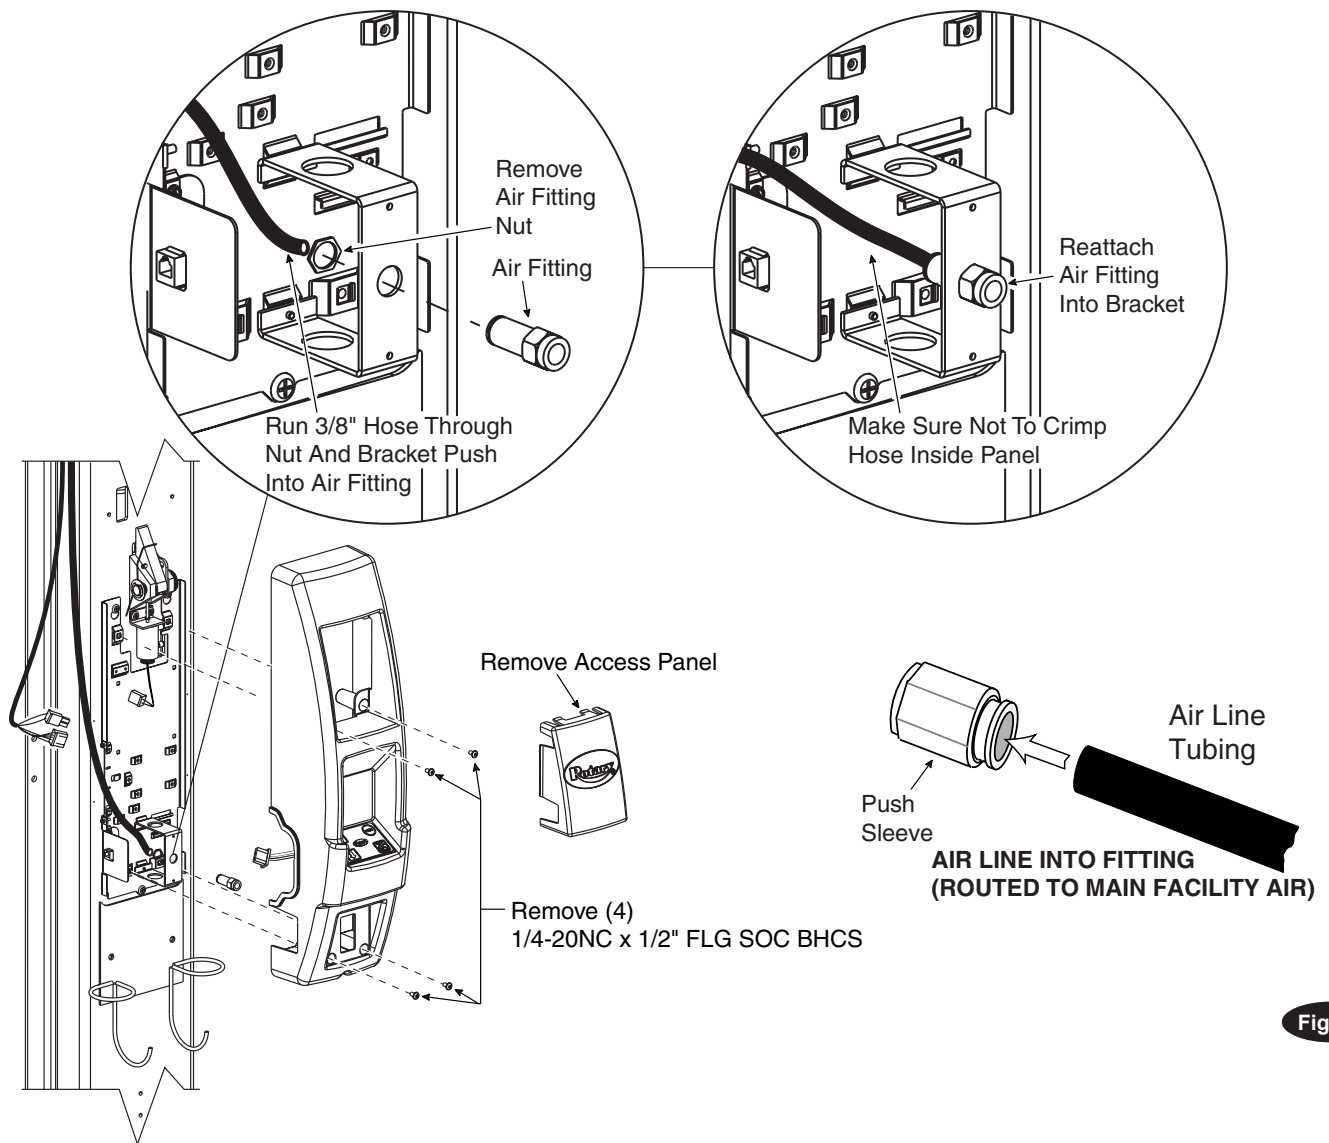

Fig. 20
- I) Remove access panel and hood from slave control side, Fig. 20. Loosen nut from air fitting and remove from bracket. Take one end of the 3/8" hose (40' provided) and place through the nut and bracket. Push air line into the air fitting. Air line should be clean and have a straight edge. Attach air fitting back into bracket making sure air line is not crimped before placing the slave hood and access panel back on it's bracket. The air line should be routed out of the slave control panel and back up through the column and to the facilities main air supply. Air fitting (provided) to make connection to main air supply, Fig 20.